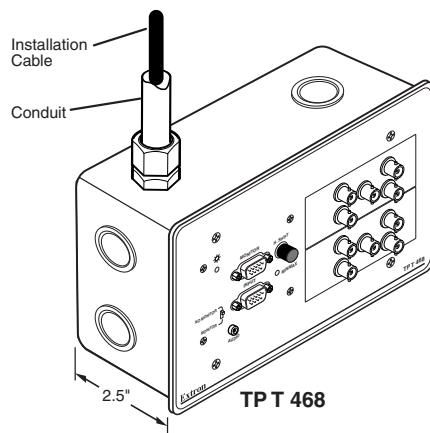

Figure 2-6 — TP T 468 in a four-gang wall box
The following Underwriters Laboratories (UL) requirements pertain to the installation of the TP T 468 into a wall or furniture (figure 2-6).